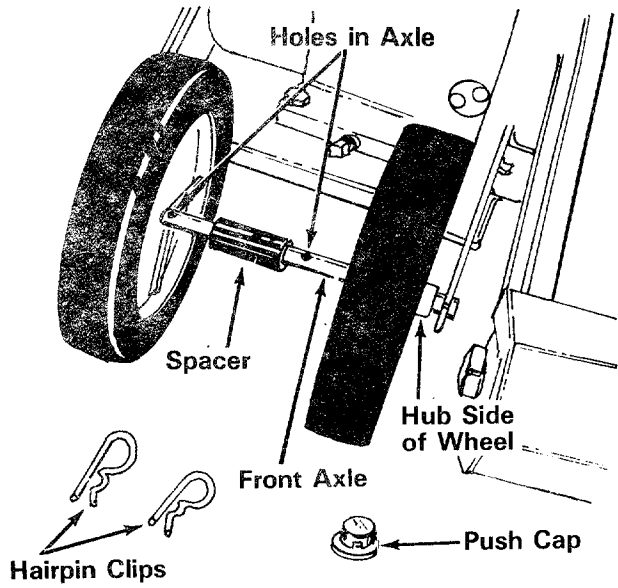
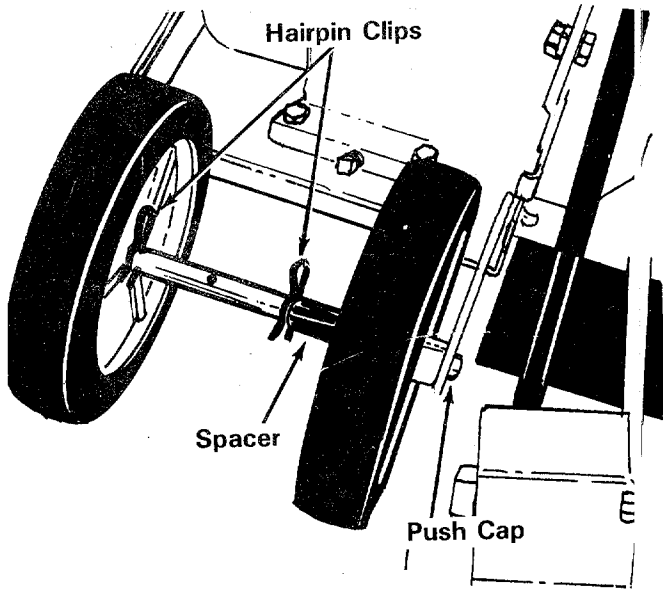

FIGURE 4
FIGURE 5
- Starting on the right side of the edger, place the axle through the support arm on the frame. Then place axle through one wheel so the hub of the wheel is to the outside of the unit. Next place axle through spacer, the other wheel (hub to the outside of the unit) and through second support arm. See figure 4. Secure with push cap by tapping it on with a hammer. See figure 5. It is necessary to hold a block of wood or a second hammer against the push cap on the other side of the axle.
- Secure the front wheels and axle in position using two hairpin clips. See figure 5.